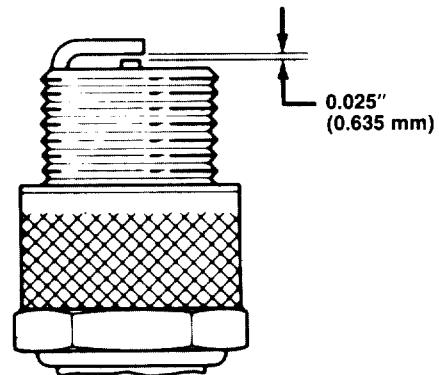

Figure 22
4. Set air gap between center and side electrodes at 0.025 of an inch (0.635 mm) (Fig. 22). Install correctly gapped spark plug w/gasket seal, and tighten plug to 10-15 ft-lb (14-20 N·m). If torque wrench is not used, tighten plug firmly.